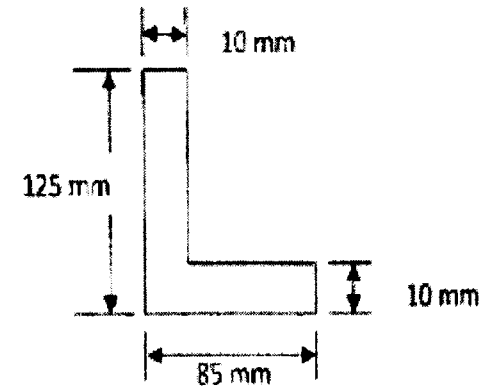

Fig.2
- b) Determine the moment of inertia of the L section shown in fig. 2 about its centroidal axis parallel to the legs. Also find the polar moment of inertia.